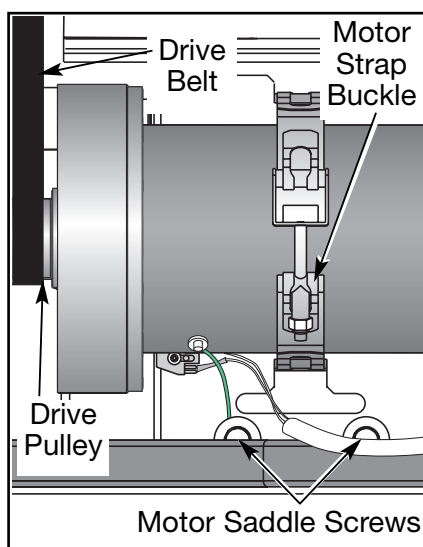

Figure 9
- A. Using a 1/2" socket wrench, loosen but do not remove the two screws on the motor saddle. See Figure 9.
- A. If you are changing the drive belt, slip the drive belt around the drive pulley and off the motor. See Figure 9.
- A. Using a 1/2" socket wrench, tighten the two screws on the motor saddle. See Figure 9.
- A. Using a 1/2" socket wrench, loosen the two screws, two split washers, two flat washers on the motor saddle. See Figure 9. **NOTE:** The tension is now released. You will remove motor ground cable in step 5.